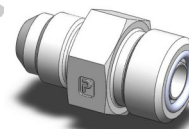

Fig. 33
- A. Install the #6 SAE o-ring fitting on the power port. (Fig . 33)